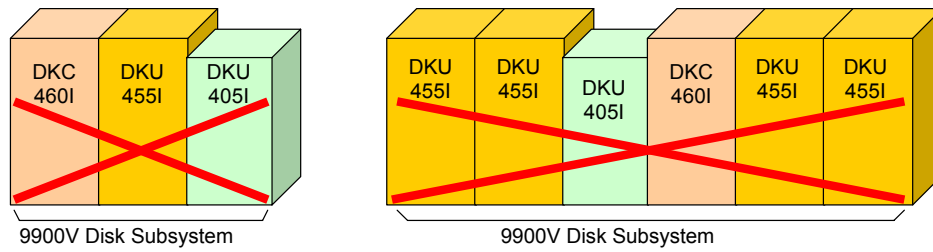

Figure 5.15 Prohibited 9900-9980V Intermix Configurations
- The DKU405I unit cannot connect directly to a DKU455I unit (see Figure 5.15).